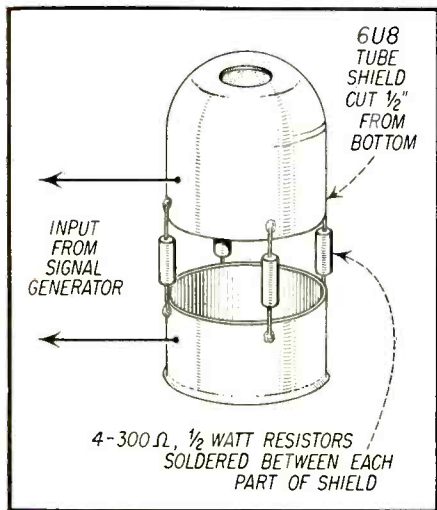

Fig. 10—Tuner coupling jig.
7. Tuner coupling jig. (Fig. 10).
Other preliminary connections are as follows. The crystal controlled *rf* generator is connected through a suitable double-terminated jig (see Fig. 10) which is slipped over the mixer tube. The channel selector switch is placed between channels to disable the local oscillator. A suitable bias (-4V) is applied to the *agc* bus at the junction of R5-2 and R6-2.